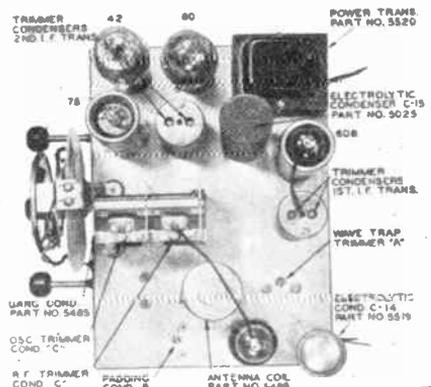

Fig. 1. Top view of model 56 chassis
4. Adjust the four trimmers of the two intermediate frequency transformers (see Figure 1) for maximum output with minimum input from the service oscillator.
5. Adjust the wave trap trimmer "A" (see Figure 1) for minimum output.
**RADIO FREQUENCY ALIGNMENT** The parallel or high frequency trimmer condensers for the broadcast band are on the gang condenser. These trimmers are used for aligning the high frequency end of the broadcast band. Location of the trimmers is shown in Fig. 1. The oscillator adjustable series padding condenser is used for tracking the oscillator at the low frequency end of the broadcast band. The padding condenser may be adjusted from the top of the chassis through the hole indicated in Figure 1. While making padding condenser adjustments the gang condenser should be rotated back and forth across the signal to insure adjustment to the peak of greatest intensity.
4. Adjust the trimmer condensers on the gang condenser (Figure 1) for maximum output with minimum input from the signal generator.